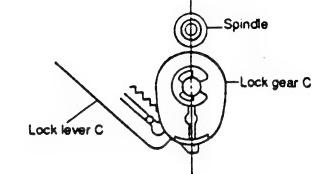

Fig. 6
- Adjust the lock gear as shown in Fig. 6.